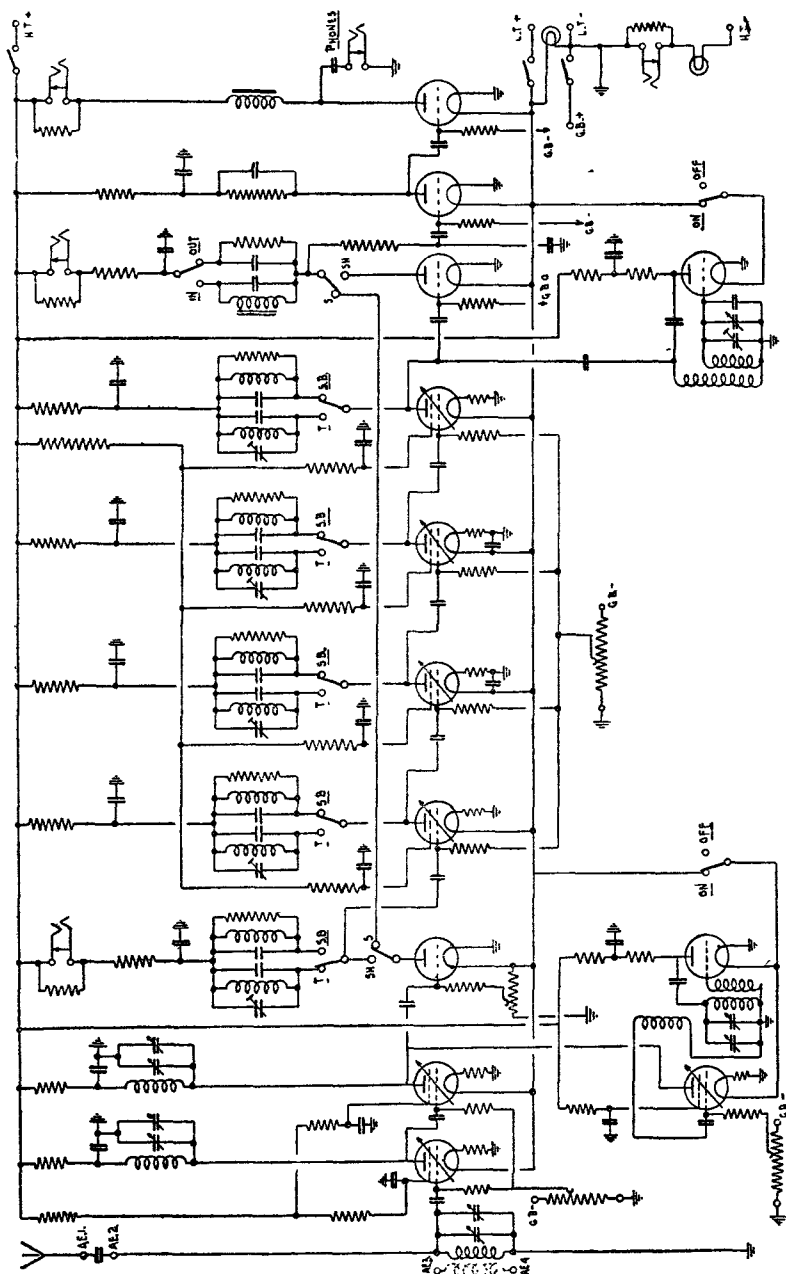

Fig. 79.—Receiver R. 1084.
6. **Circuit.**—A schematic diagram is shown in fig. 78 and a complete circuit diagram in fig. 79:—